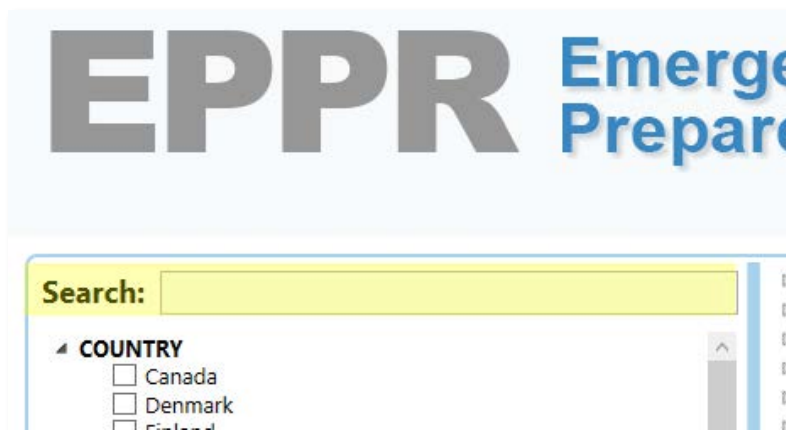

Figure 5- Search Data Field
1. Locate the **Search** text field in the Filter panel on the left (Figure 5).